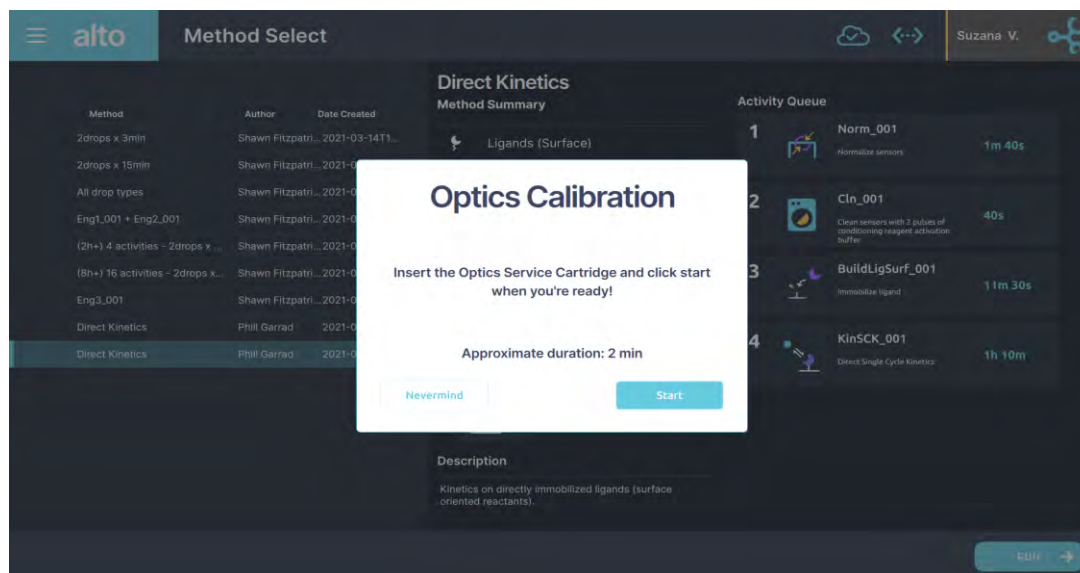

Figure 5.9: Once the OSC is placed in the loading bay, click “Start” to begin the calibration procedure.
- Once the cartridge is placed in the loading bay, the cartridge will be detected and the “Start” button will become clickable for the Optics Calibration Procedure as shown in Figure 5.9. Click the start button to start the calibration procedure. This process will take about 2 minutes.